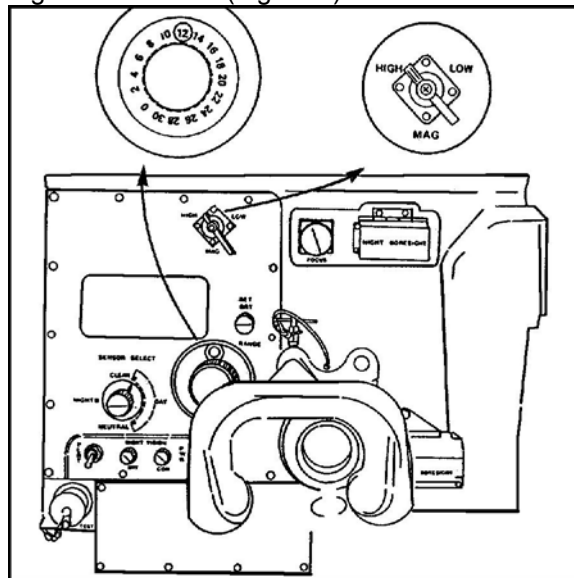

Figure 1. Range control knob and MAG switch.
- b. Set the integrated sight unit controls (Figure 1).